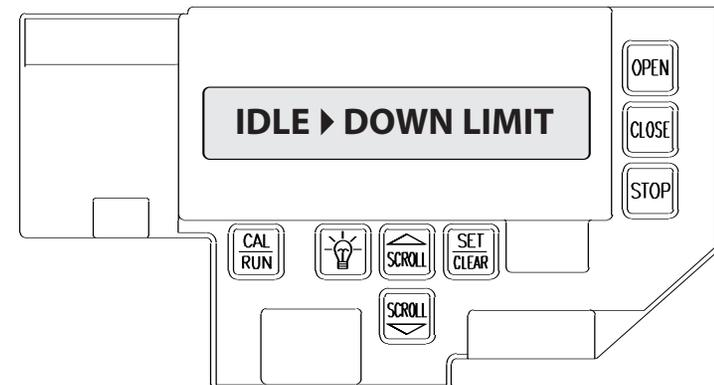

Figure 7
7) Push LIMIT LOCKING BAR away from Limit Sensors and turn Close Limit Travel Nut until travel nut arrow and close limit sensor arrow are aligned and the display reads "IDLE > DOWN LIMIT." **Fig. 7.**